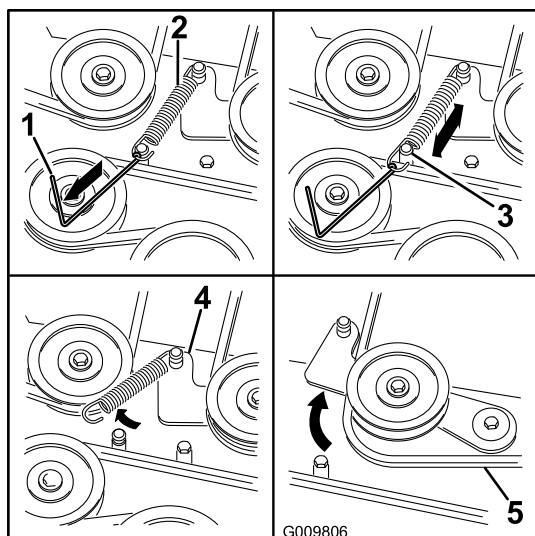

Figure 63
7. Using a spring removal tool, (Toro Part No. 92-5771), remove the idler spring from the deck post to remove tension on the idler pulley (Figure 63).
10. Install the new belt around the mower pulleys and the clutch pulley under the engine (Figure 63).
11. Using a spring-removal tool, (Toro Part No. 92-5771), install the idler spring over the deck post and placing tension on the idler pulley and mower belt (Figure 63).